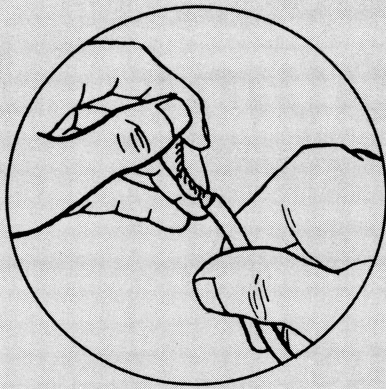

Fig. 6
6. Twist small wires together, clockwise. (Fig. 6).